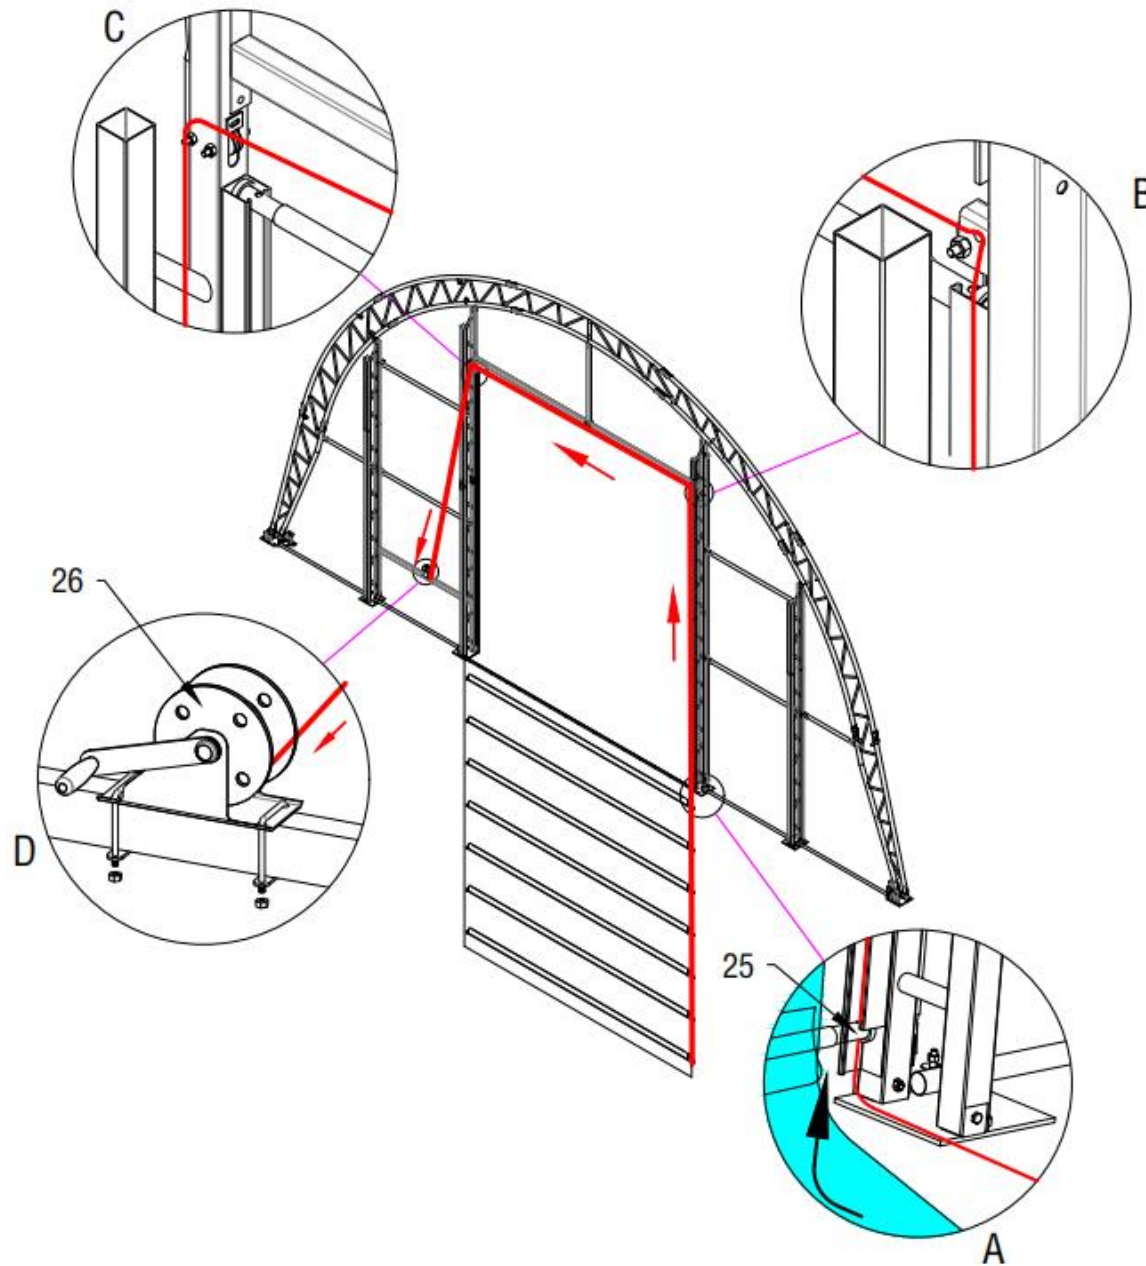

Figure 19
4. When you close the door, we can use the Lock steel wire for door (No.26) and Lock steel wire for the wrench handle to fix. (Figure 19)